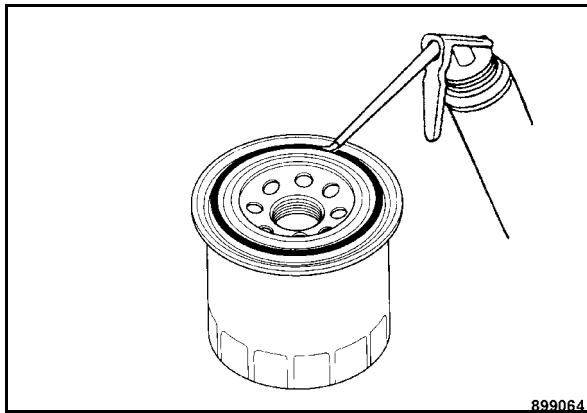

Fig. 97
- Slightly oil the rubber seal on the new filter cartridge (Fig. 97).